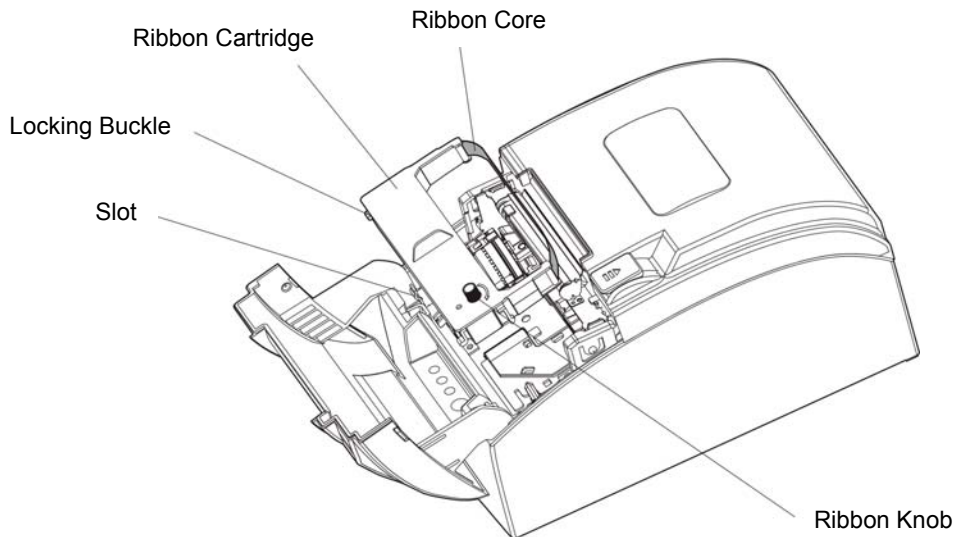

Figure 2-8 Installing the ribbon cartridge
4. As Figure 2-8 shows, place the ribbon cartridge into the printer and make the printer oblique backwards slightly. Push the ribbon cartridge down until the ribbon core is locked in place.